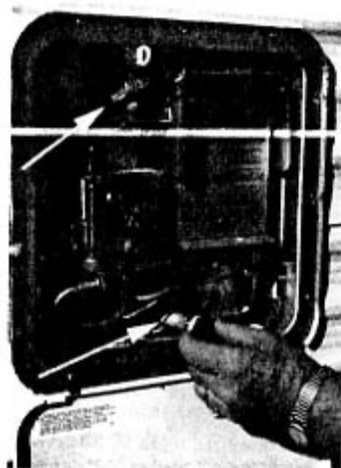

Fig. 28.
5. Open the drain valve on the bottom of the water heater, as well as the water heater safety valve. See Fig. 28.